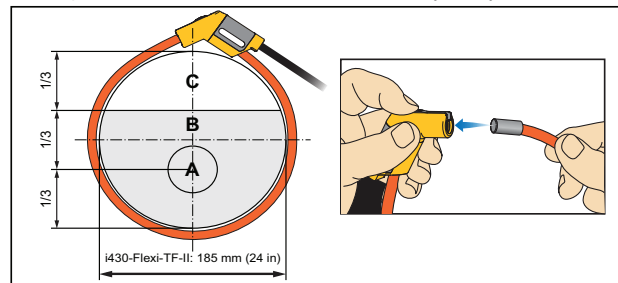

Figure 1. Connecting the flexible probe around the conductor.
• with position of conductor in the probe window (see Figure 1):
2. Connect the flexible probe around the conductor (See Figure 1.)